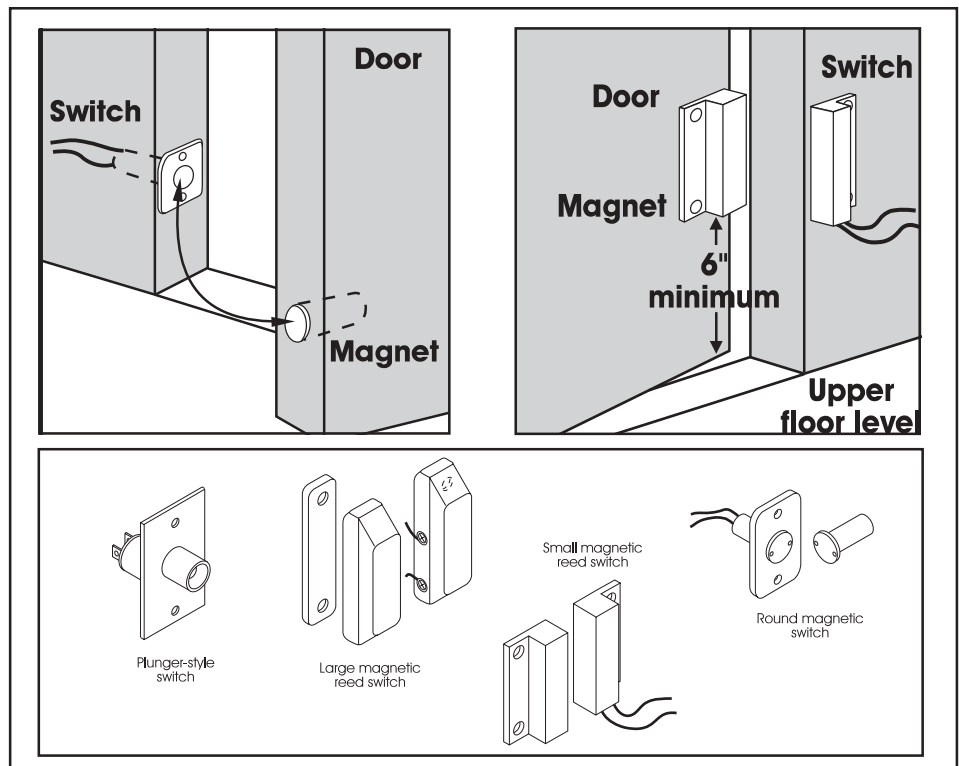

Figure 4 - Door switch installation
3. Once preliminary preparations are finished for the door switch installation (See Figure 4), connect the brown wire lead from the vehicle half of the four-way connector to one of the terminals or wire leads from the door switch. Use a minimum of 16 gauge wire.
3. Install the magnet in the door, opposite the switch. Vertical placement of the magnet is critical to door switch operation. See Figure 4.